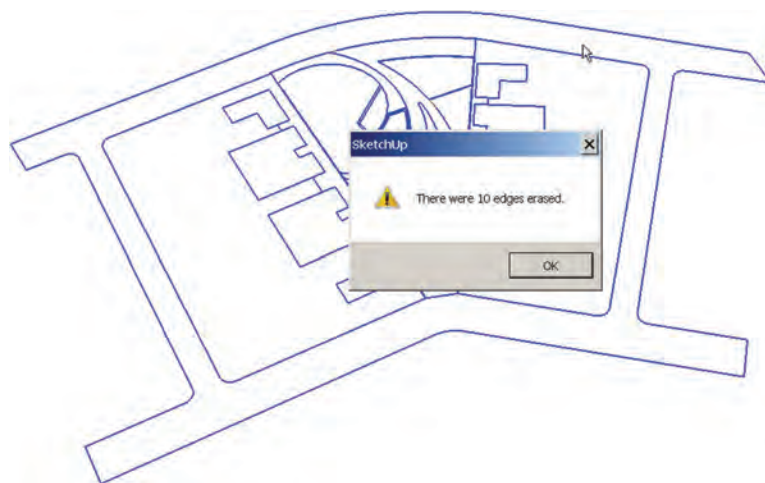

Fig. 18-24: From the Extensions menu, select Delete Short Lines. One of two things will happen.
- ▶ A pop-up menu will appear and indicate how many lines were deleted (Fig. 18-24). If this happens, you won't need to do anything else.